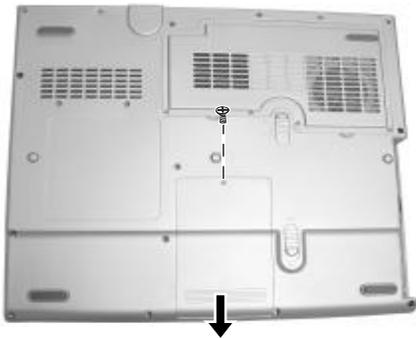

Figure 2-10 Remove HDD compartment cover
3. Remove one screw fastening the HDD compartment cover. Then sliding it outward. (Figure 2-10)